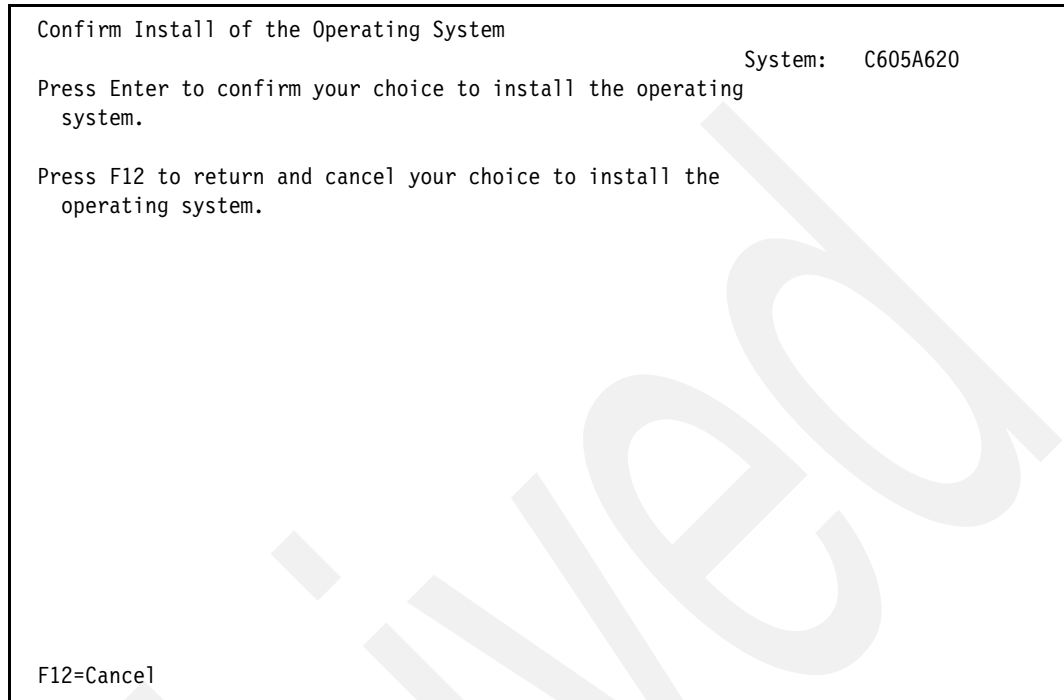

Figure 6-77 IBM i Confirm Install of the Operating System panel
16. We press Enter to confirm the installation of the operating system, as shown in Figure 6-77.